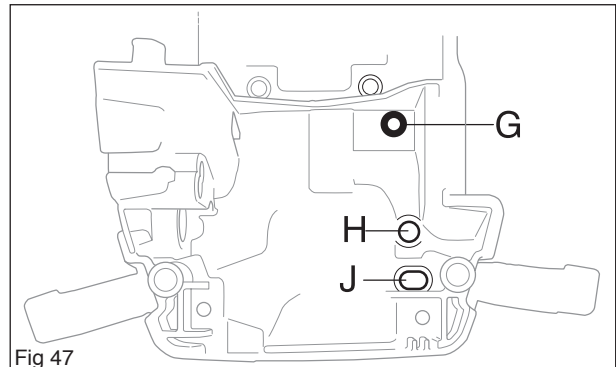

Fig 47
2. Lift the engine unit above the tank unit and insert the fuel hoses (in J), return hose (in H) and throttle cable (in G) in the bottom of the carburettor compartment. (see figure 47)